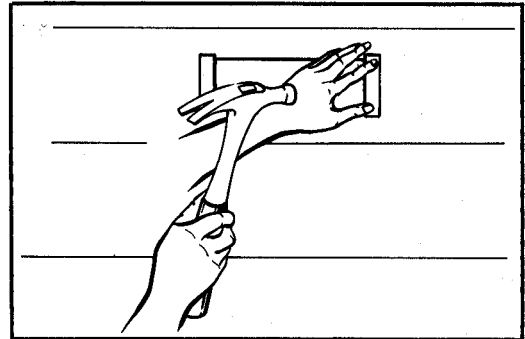

Figure 4
2. Nail down siding corners. Trim opening in siding with casing strips. (Fig. 4)